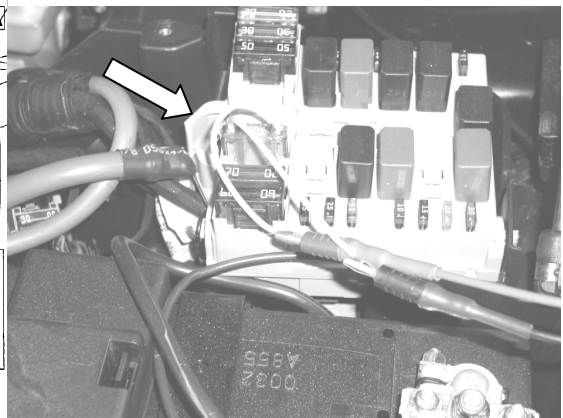

fig. 2
- ⇒ Insert the device part no. 71729096 (50 kΩ shunt) in the previously removed MAXI-FUSE housing within 10 seconds (fig. 2 and 3).